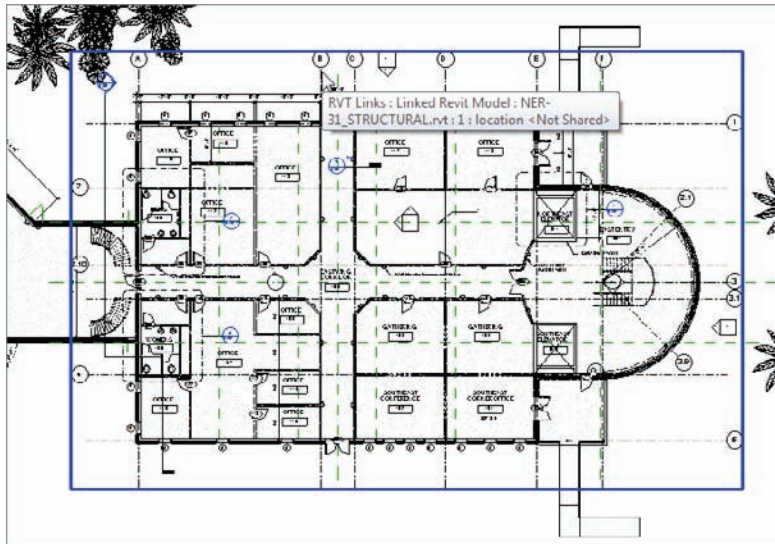

FIGURE 20.5 Selecting the link to Copy/Monitor
3. Hover your pointer over one of the grids. You see an outline of the Revit Structure model that you've linked in. When you see the outline, pick the grid (see Figure 20.5).